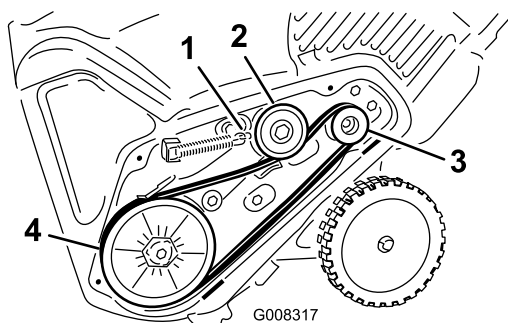

Figure 28
8. Install the brake spring onto the idler arm (Figure 28).
5. Install the new drive belt, routing it as shown in (Figure 28).